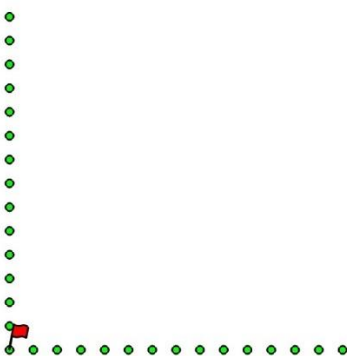

Figure 7-7: Marking the starting positions for every line
Step 3 – Mark the Line Start Positions – with the tape measure still on the ground, mark the line start positions based on the line spacings (Figure 7-7). Usually flags or paint work for grass, and chalk or paint on concrete. It is also recommended to paint a distance measurement every so often, in case you forget which line you're on.